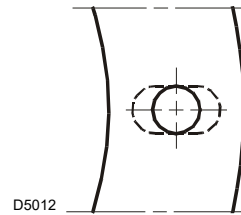

Fig. 9
- if necessary, widen the insulating gasket holes (Fig. 9), taking care not to damage them.